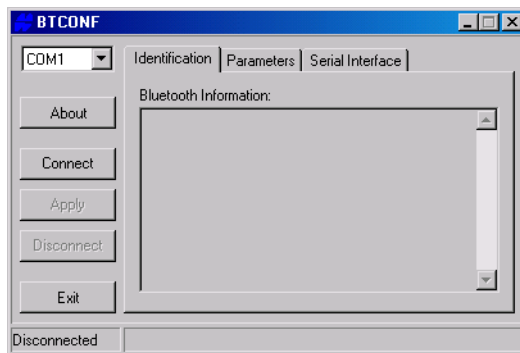

Figure 2-10. Bluetooth Module Configuration Main Screen
2. Run the Bluetooth module configuration program (Btconf.exe) (Figure 2-10).